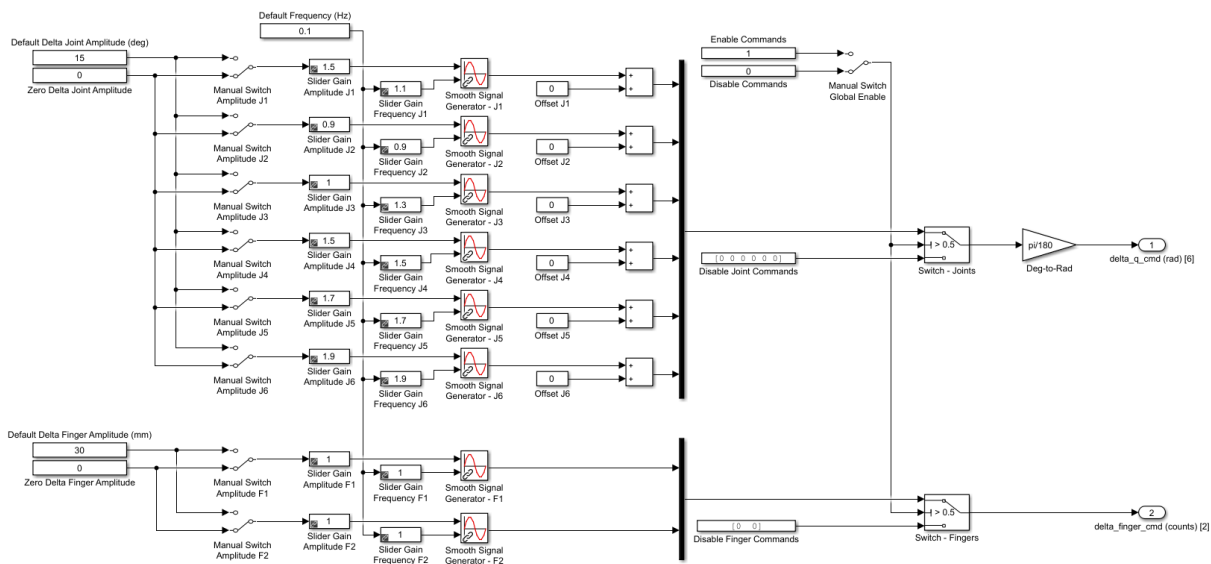

Figure 3.14: MICO_Position_Control_Torque_Mode.slx model commands
6. In the *Position Commands* subsystem, shown in Figure 3.14, set *Manual Switch Global Enable* to the enable position.